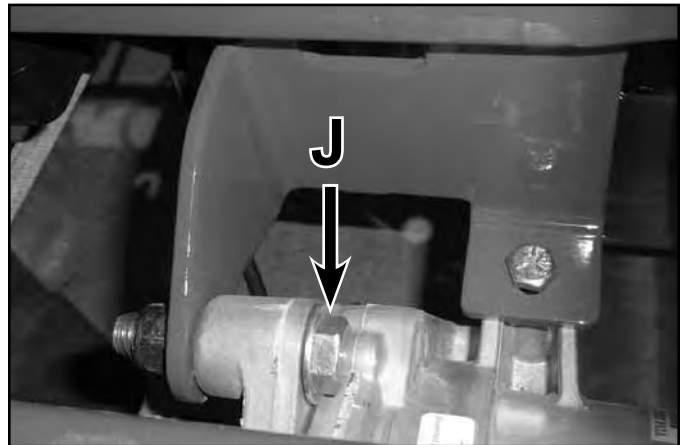

Fig. 076
1st - Torque fastener (J) to specification – 50 ft-lbs. (69 Nm) (Fig. 076)